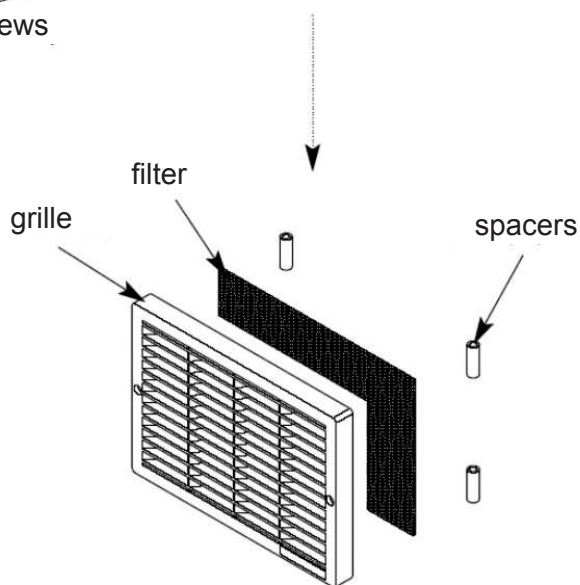

Fig. 13
5. Pull out the four cylindrical inserts from behind the grille and remove the filter (Fig. 13).